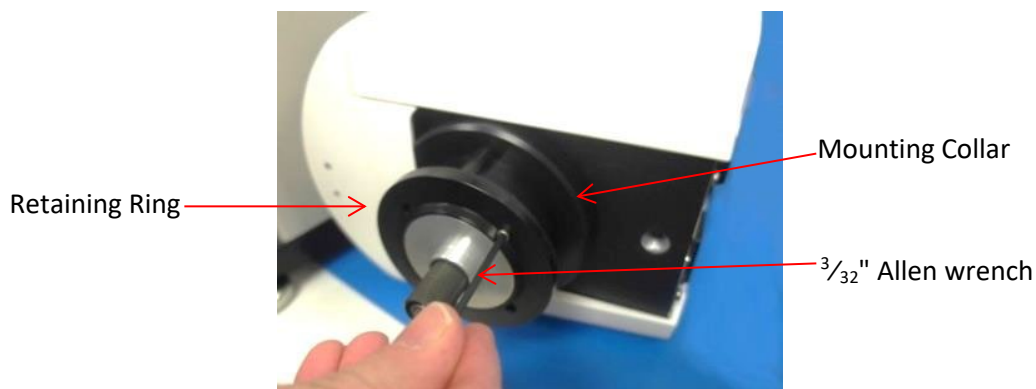

Figure 3: Retaining Ring Removed from Mounting Collar
1. Remove all four retaining screws holding the retaining ring to the mounting collar using the $\frac{3}{32}$ " Allen wrench. Refer to Figure 3.
2. Remove the retaining ring, keeping the mounting collar on the Head Unit as shown in Figure 3.